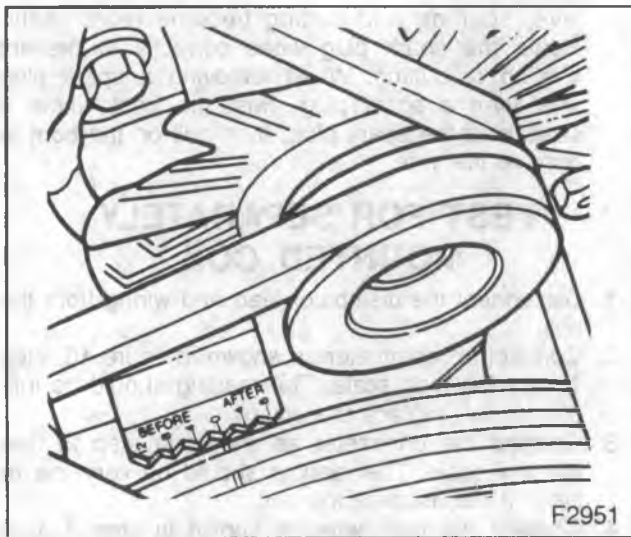

Figure 11—Timing Mark—Standard Location
5. Start the engine and aim the timing light at the timing mark (figures 11 and 12). The line on the balancer or pulley will line up at the timing mark. If a change is necessary, loosen the distributor hold-down clamp bolt at the base of the distributor. While observing the mark with the timing light, slowly rotate the distributor until the line indicates the correct timing. Tighten the hold-down bolt, and re-check the timing.